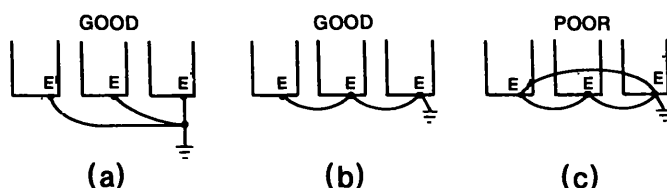

Fig. 4 Grounding of Three VS-656DC3 Units
- (1) Ground resistance should be 100Ω or less.
- (2) Never ground VS-656DC3 in common with welding machines, motors, and other large-current electrical equipment, or ground pole. Run the ground lead in a separate conduit from leads for large-current electrical equipment.
- (3) Use the ground leads which comply with AWG standards and make the length as short as possible.
- (4) Where several VS-656DC3 units are used side by side, all the units should preferably be grounded directly to the ground poles. However, connecting all the ground terminals of VS-656DC3 in parallel, and ground only one of VS-656DC3 to the ground pole is also permissible (Fig. 4). However, do not form a loop with the ground leads.